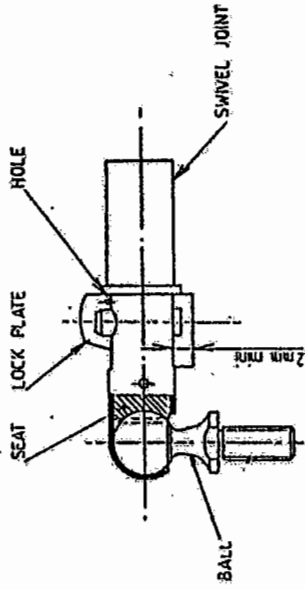

FIG. 1
- 2.5. MEASUREMENT OF THE LOCKER LOWER PART PROJECTION AFTER ASSEMBLY OF THE SWIVEL ON THE BALL (See fig. 1)
2.5. MEASUREMENT OF THE LOCKER LOWER PART PROJECTION AFTER ASSEMBLY OF THE SWIVEL ON THE BALL (see fig. 1)